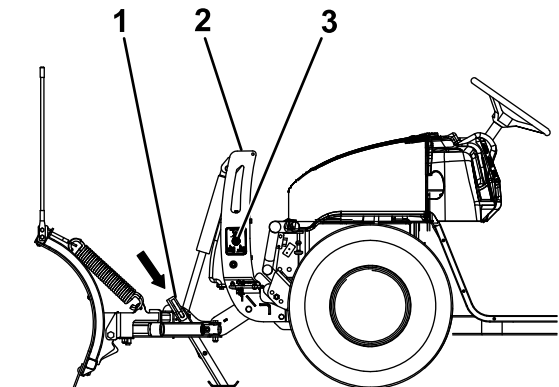

Figure 21
- Pull the kickstand spring pin outward and lower the kickstand, then release the spring pin to secure it (Figure 21).